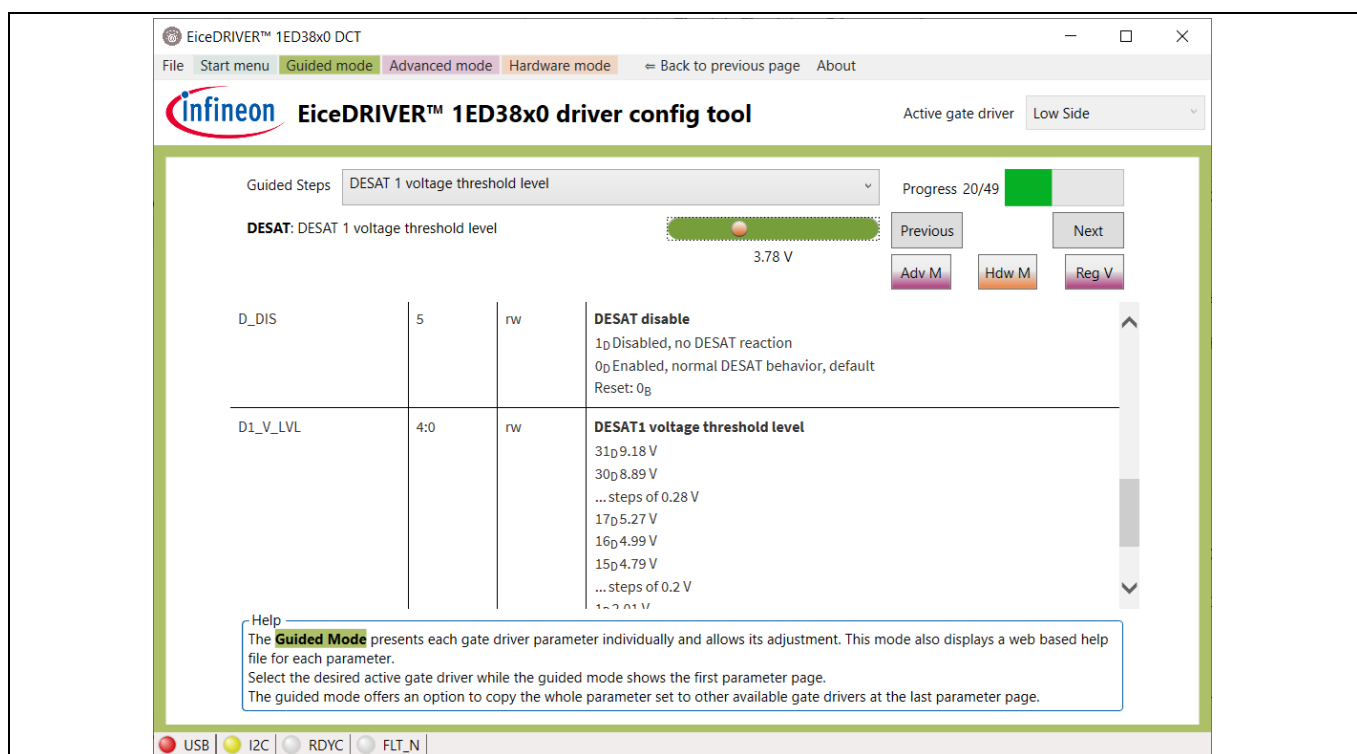
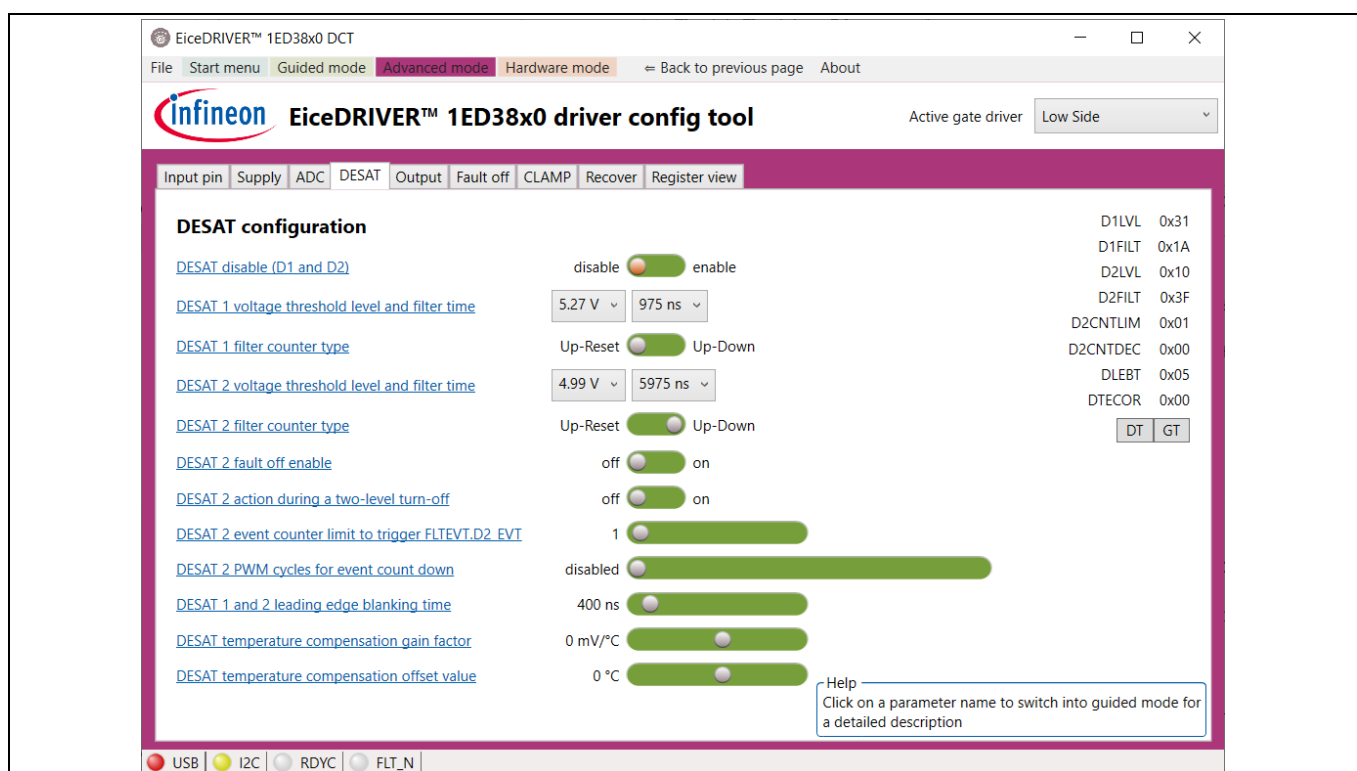

Figure 9 Example: DESAT 1 voltage threshold level of the guided mode
Figure 10 Example: DESAT configuration table of the advanced mode
9. Use the GUI to configure the gate drivers corresponding to your requirements, example see Figure 9.
The EiceDRIVER™ 1ED38x0 DCT driver IC is highly configurable via I²C. In order to familiarize yourself with it, and to easily evaluate its performance, the EiceDRIVER™ 1ED38x0 DCT microcontroller board can be used with the EVAL-FFXMR20KM1HDR. It is recommended that first-time users select the guided mode, as this also provides a detailed explanation of each configurable parameter as shown in Figure 9.
Figure 9 shows the guided mode with more details on how to configure the threshold level of the DESAT 1 function for example. Beside that, the advanced mode can be used as shown in Figure 10.